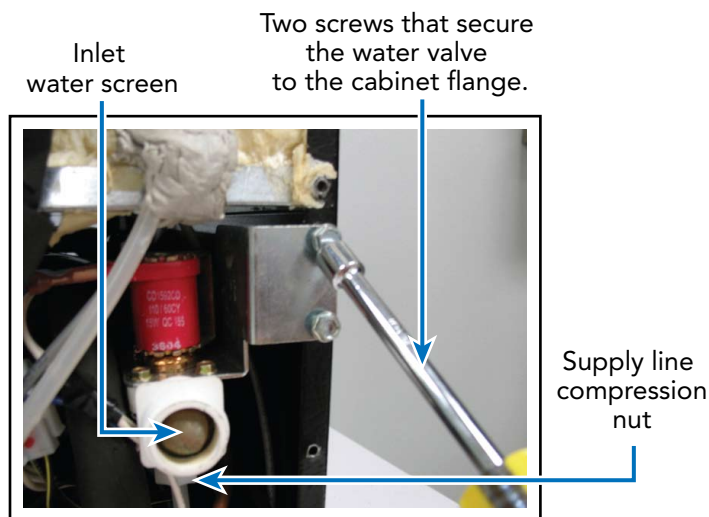

Figure 14
5. Remove the two screws securing the water valve to the flange of the cabinet (see **Figure 14**).